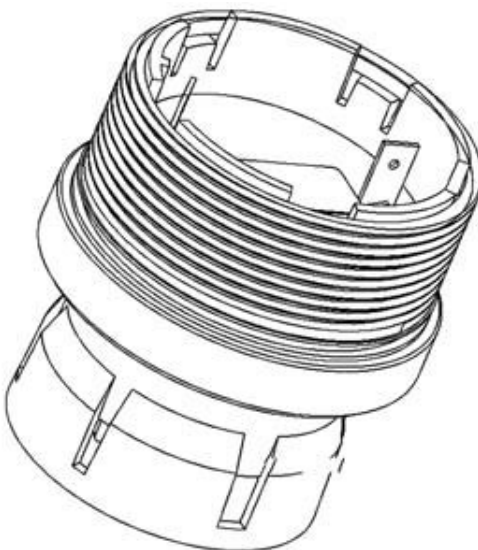

Fig. 30 Sensor Assembly and Sensor Guard for General-Purpose Model
- (1) There is no need to open the main enclosure; simply unscrew the sensor assembly located on the bottom of the Ultima X Series Gas Monitor main assembly (Fig. 30).